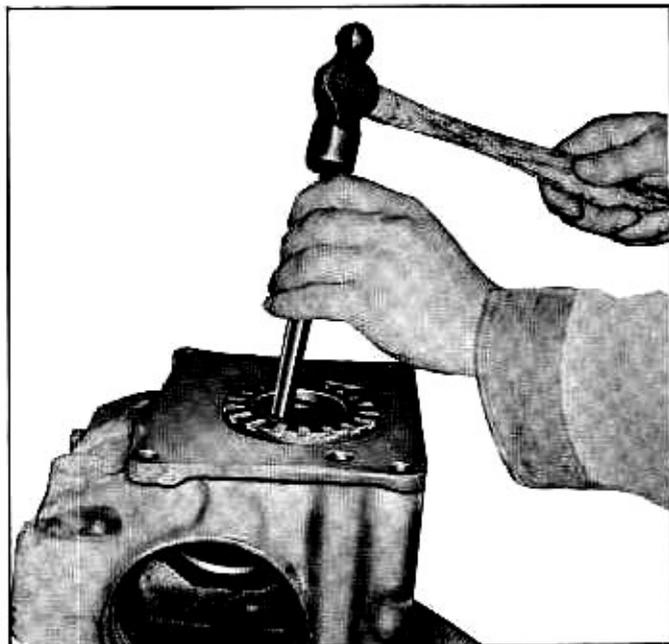

Fig. 2—Removing Pinion Front Bearing Race
1. Install adjusting sleeve and race assembly into carrier and remove race with a punch or other suitable tool (fig. 2). On automatic transmission models it will be necessary to remove pinion oil seal prior to race removal.